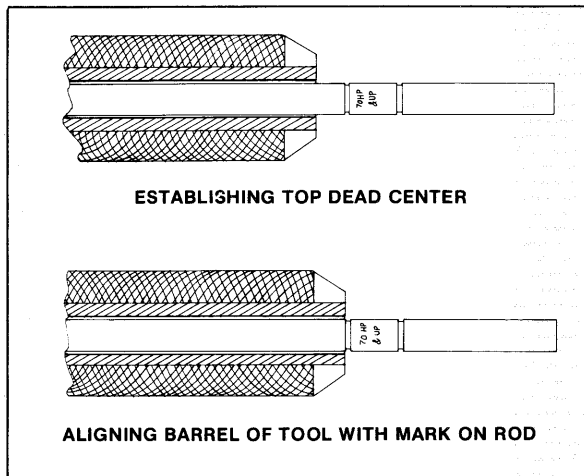

Figure 4—Location Top Dead Center
- Insert rod portion (Special Tool T2937A) of timing tool in barrel with two (2) marks identified as "70 H.P. and Up" towards the outside.
- Holding the rod tight against the piston, rotate crankshaft in direction of engine rotation and locate top dead center (point at which piston is closest to cylinder head or point at which marks on rod extend furthest away from barrel). See figure 4.
Screw barrel of the timing tool in or out as required until inside line of the timing rod lines up with edge of barrel as shown in figure 4.